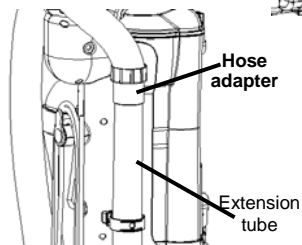

Fig. 5
4. Insert the hose adapter into the extension tube. (Fig. 5)